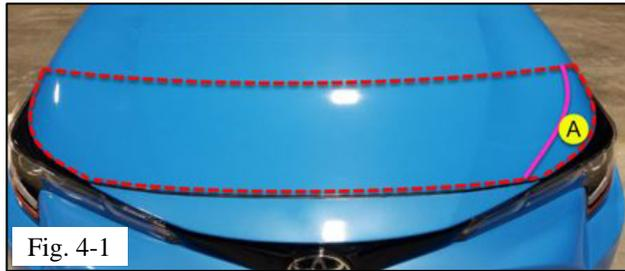

Fig. 4-1
- (a) Align the lower front corner of section (a) within the proper tolerance and tack down with the squeegee. Pull the material out and away from your tack point, hold film in position for alignment and secure it by removing the solution with the squeegee (Fig. 4-1).